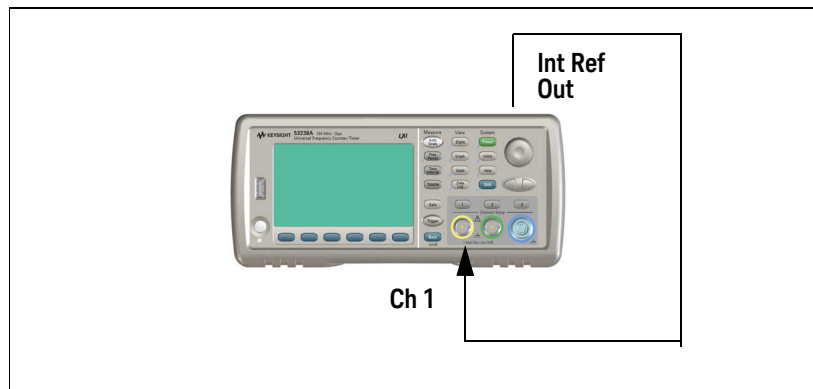

Figure 1-1 Operational verification setup for Keysight 53210A/220A/230A
- 1 Connect the counter's rear-panel **Int Ref Out** as shown in Figure 1-1 to the front panel Channel 1 input connector.